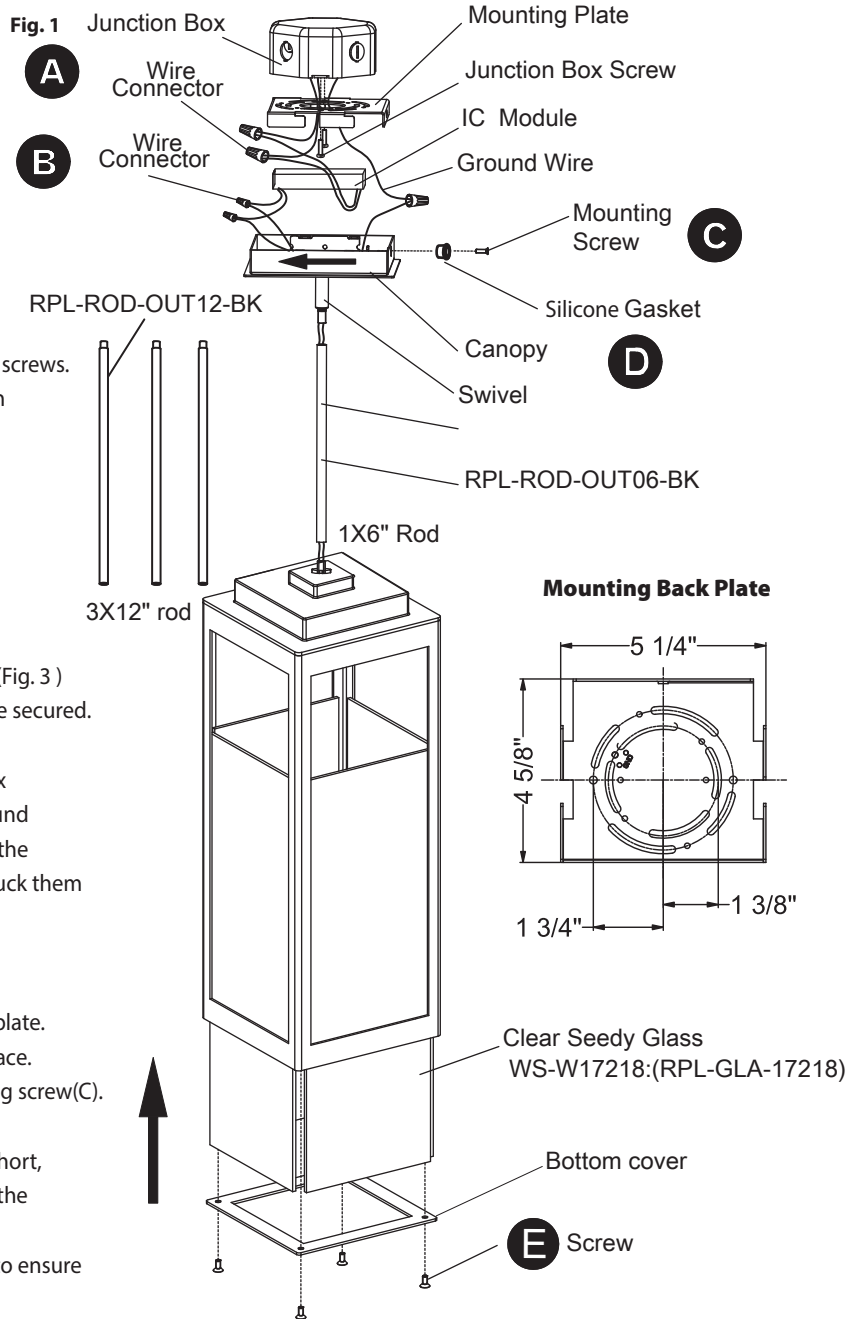

Fig. 2 Wiring
8. Connect the IC input wires to junction box wires as shown (Fig. 2). Make sure that all wire connectors (A) are secure. If your outlet box has a green or bare copper ground wire, connect the fixture's ground wire to it. Otherwise, connect the fixture's ground wire directly to the back plate using the screw provided. After wires are connected, tuck them carefully inside the junction box.